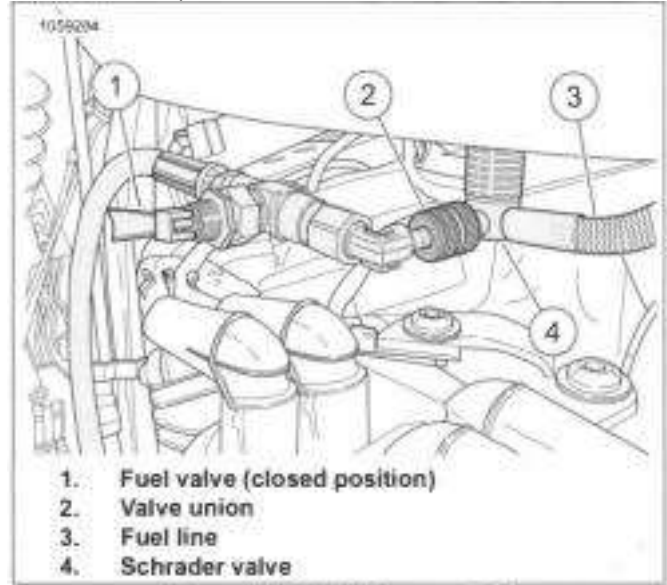

Figure 6-10. Fuel Pressure Test
1. See Figure 6-10. Attach valve union (2) on FUEL PRESSURE GAUGE (PART NUMBER: HD-41182) to schrader valve (4) on fuel line (3).
2. Close fuel valve (1).